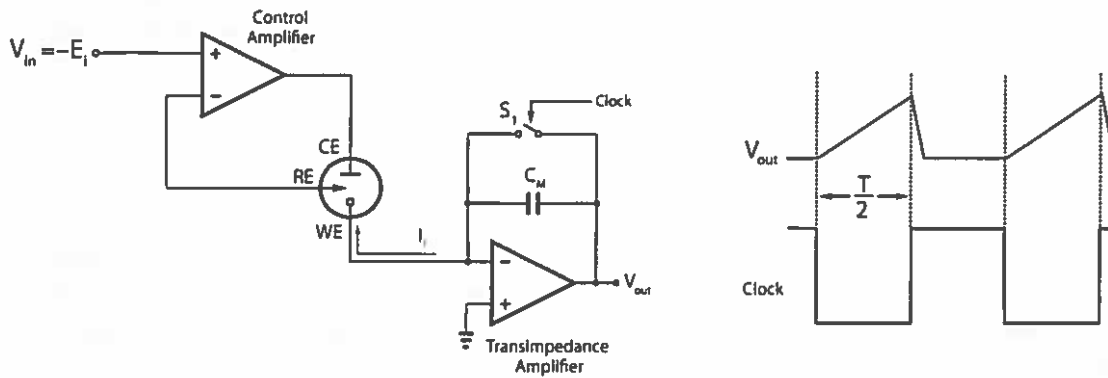

Figure 3.1
b) The potentiostat system shown in Figure 3.1 is used to drive a three-electrode amperometric glucose sensor.
iii) The system shown in Figure 3.1 operates of a dual supply with $V_{DD}=5\text{V}$ and $V_{SS}=-5\text{V}$. The transimpedance amplifier is clocked at a frequency $f=10\text{KHz}$. Calculate a value for the capacitor C_M which ensures the maximum utilization of dynamic range at 20mM of glucose.